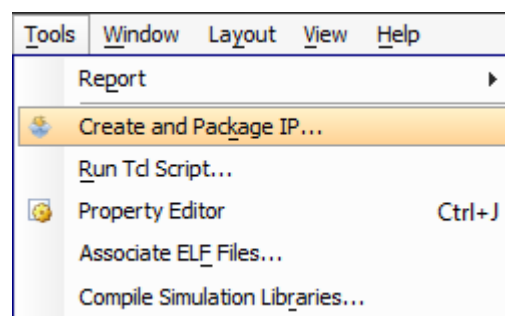

Figure 4.3: Create and Package IP menu bar selection
- (k) From the menu bar, select **Tools > Create and Package IP ...**, as in Figure 4.3, to launch the **Create and Package IP Wizard**.